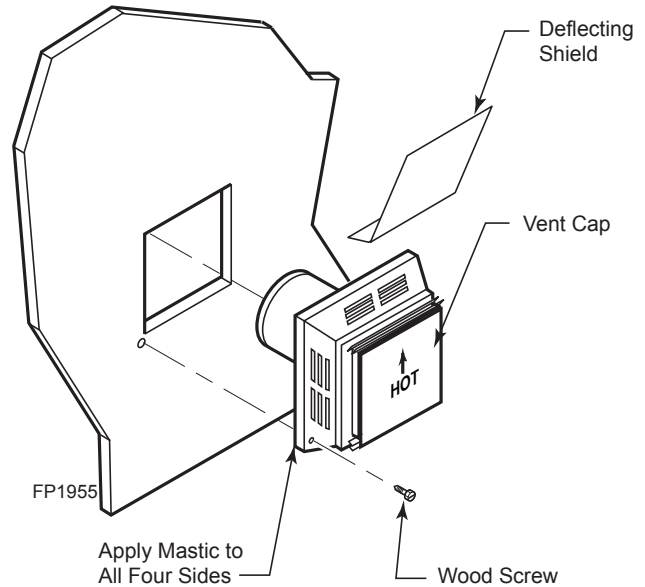

Figure 19 - Installing Horizontal Vent Cap
4. Apply a bead of non-hardening mastic around the outside edge of vent cap. Position the vent cap in the center of hole on the exterior wall with the word "UP" on the vent cap facing up. Insure proper clearance of 1" to combustibles is maintained. Attach the vent cap with four wood screws supplied. *Figure 19*